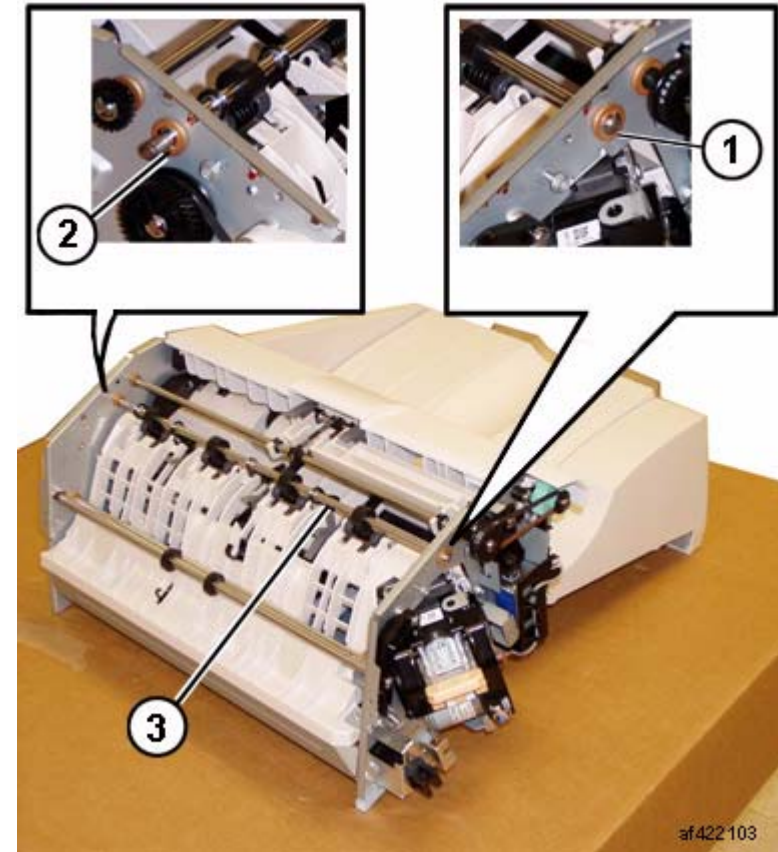

Figure 3 Removing the Exit Roll Assembly (af422103)
7. Remove the Exit Roll Assembly. (Figure 3)